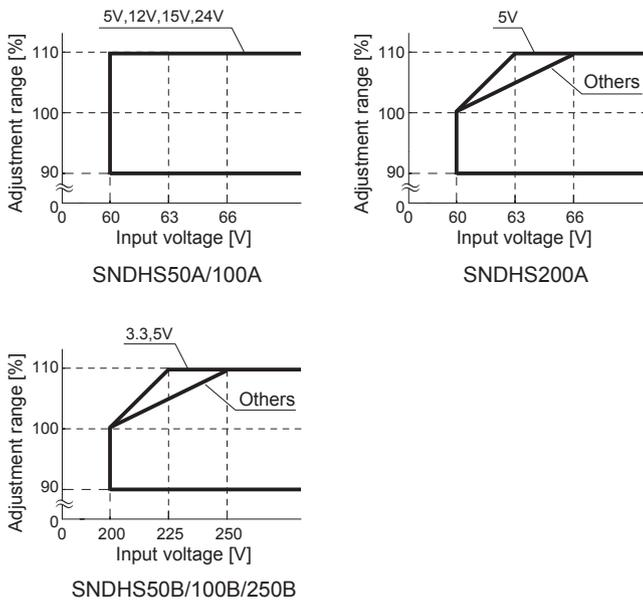

Fig. 4.3 Output voltage adjustment range
- When the input voltage is 60-66VDC or 200-250VDC, the output voltage adjustment range becomes as shown in Fig.4.3.